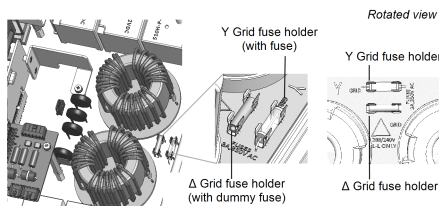

Figure 32: Fuse locations and markings
To set the inverter for 3-wire grid connection, you must move the fuse from the 4-wire fuse holder, marked as Y GRID, to the 3-wire fuse holder, marked as Δ GRID (see *Figure 32*).
- Identify the fuse locations and the markings as described in *Figure 32*.